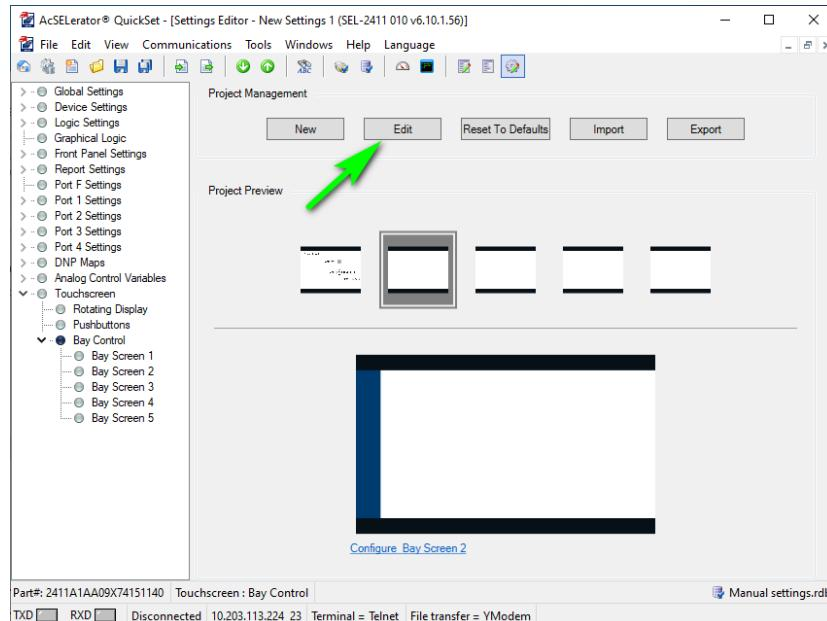

Figure 8.75 Open Diagram in Bay Screen Builder
- Step 1. Select a Blank diagram and select **Edit**, as shown in *Figure 8.75*, to launch the Bay Screen Builder software.